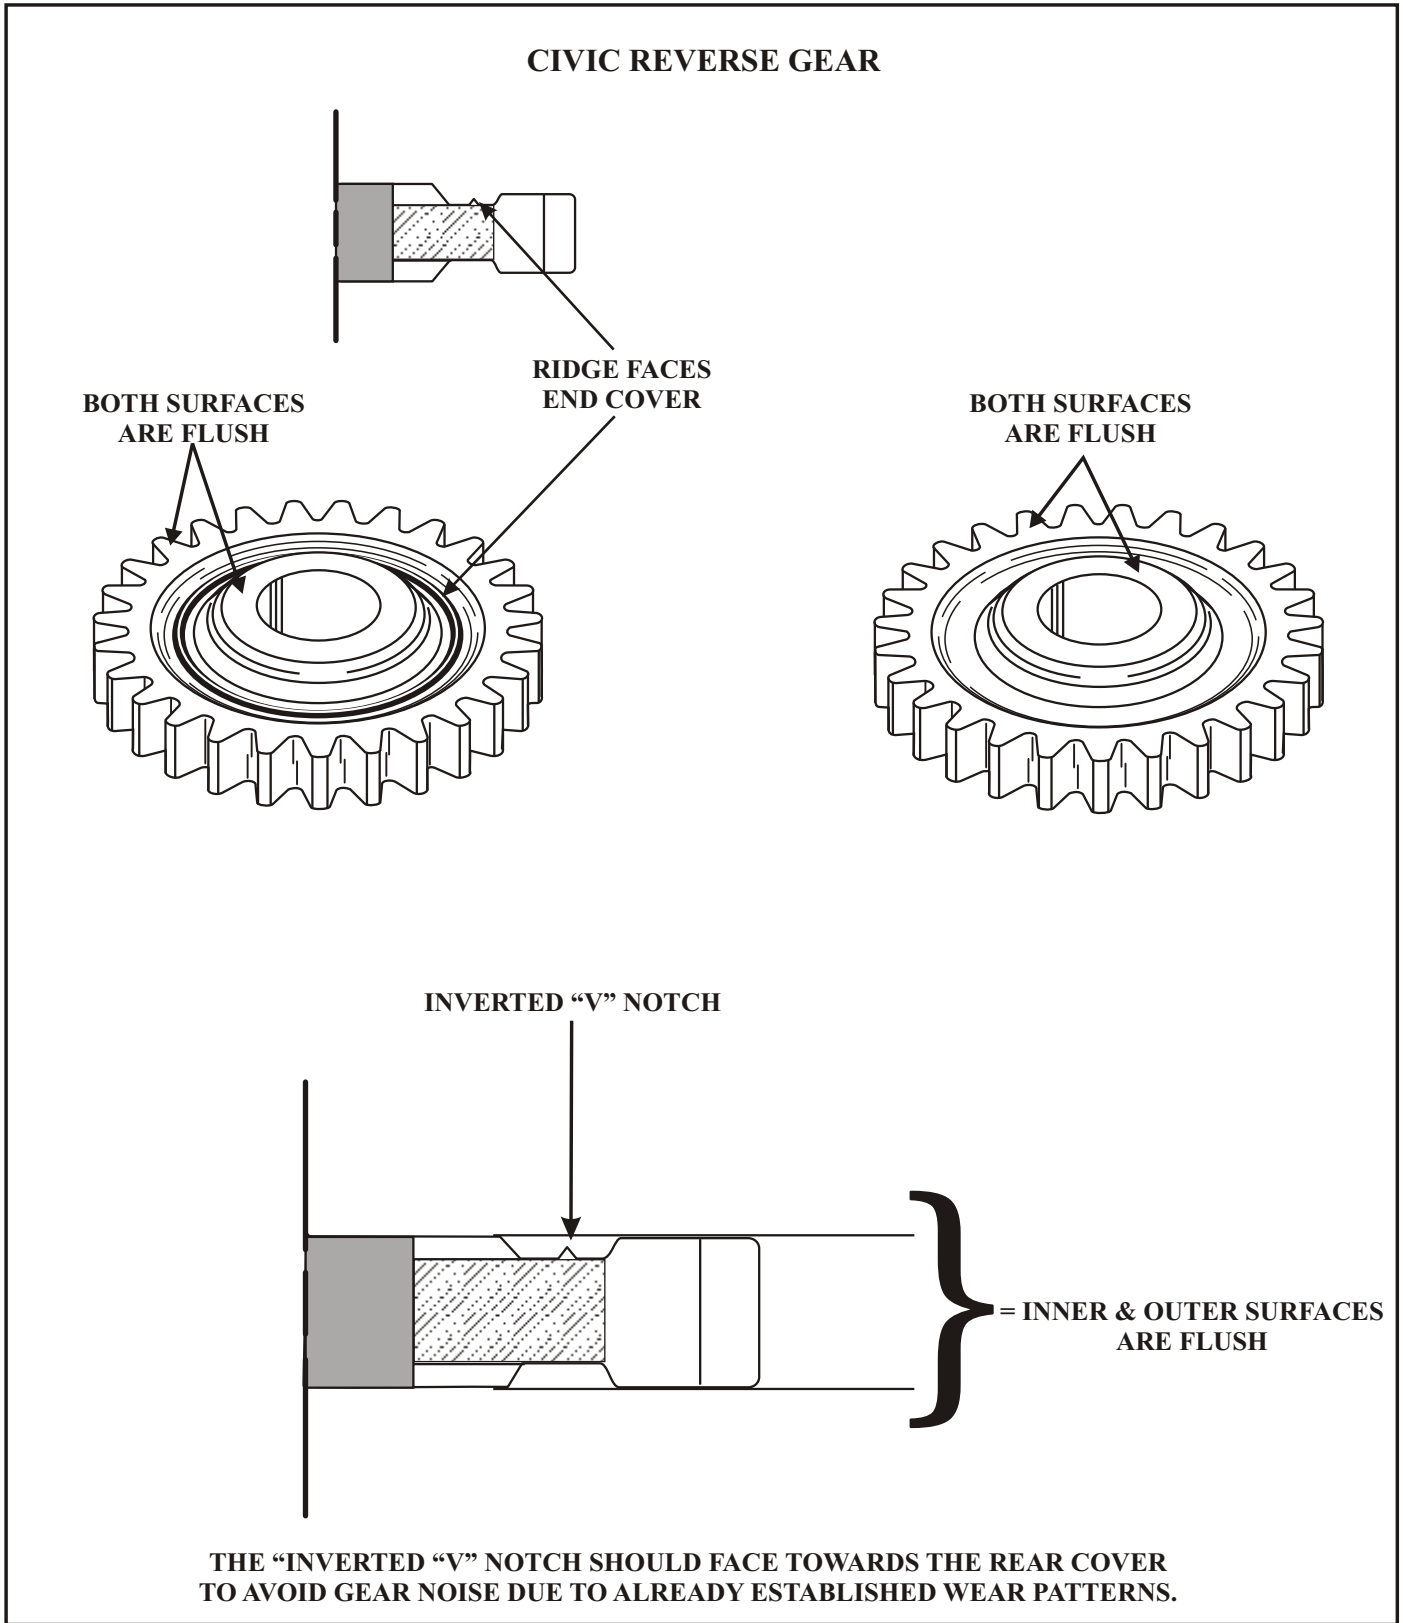

Figure 1
**CORRECTION:** Civics and Accords three shaft design with four cylinder engines use a reverse idler gear that has to face in a correct direction. The gear shown in Figure 1 for the Civic has a small inverted 'v' groove on one side. This "v" groove faces the end cover, away from the converter.